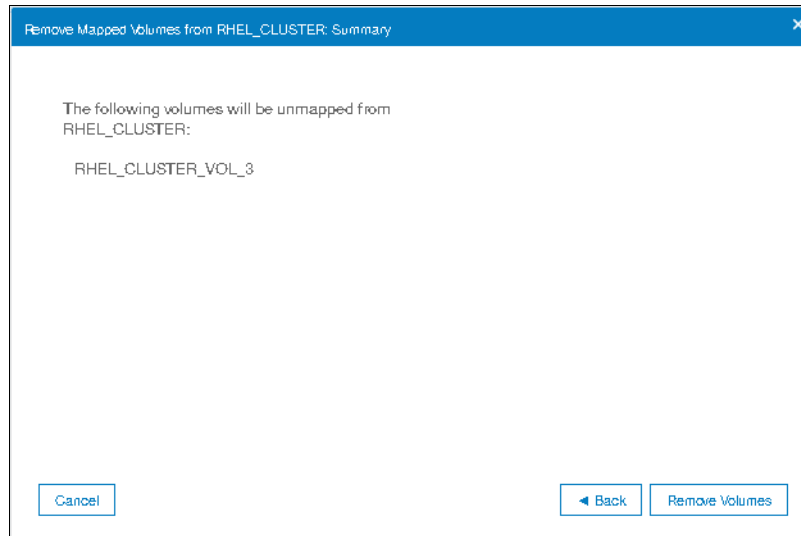

Figure 5-99 Volume unmap from host cluster
6. Click **Next**. A window will appear as shown in Figure 5-99 on page 258.